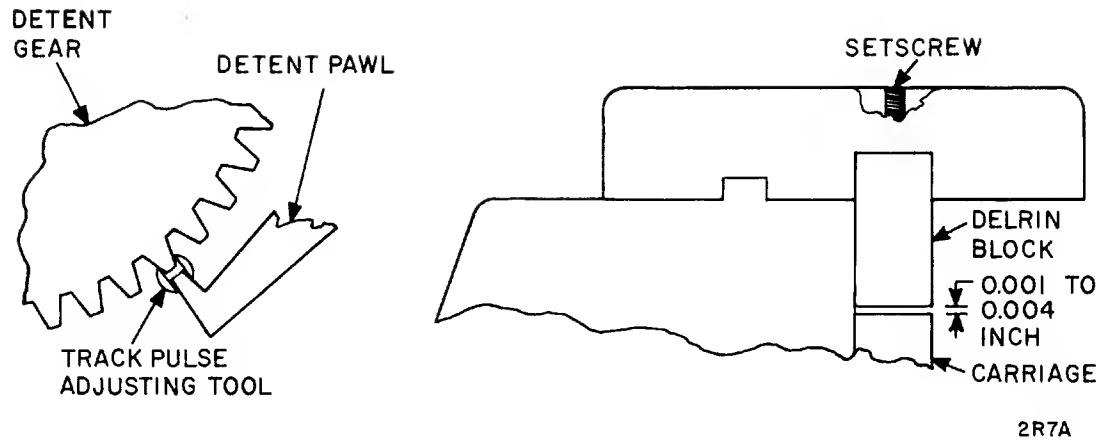

Figure 6-11. Carriage Limit Stop Adjustment
12. Disengage the detent pawl and move the carriage forward until the screw securing the timing disk hub to the motor shaft is visible in the slotted opening of the motor mounting plate. Use the track pulse adjusting tool (84353100) to set the pawl squarely on top of the nearest detent gear tooth (Figure 6-11).
4. If the requirement of step 3 is not met, remove the screws securing the head diode boards bracket. Under the bracket (and above the Delrin block, Figure 6-11) is a setscrew. Free the Delrin block by removing the screw immediately to the rear of this setscrew. Pull the Delrin block clear of the top edge of the carriage.
7. Disengage the detent pawl and position the carriage at approximately Track 50. Using a feeler gauge, check that the gap dimension between the bottom of the Delrin block and the top of the carriage (Figure 6-11) is between 0.001 and 0.004 inch.